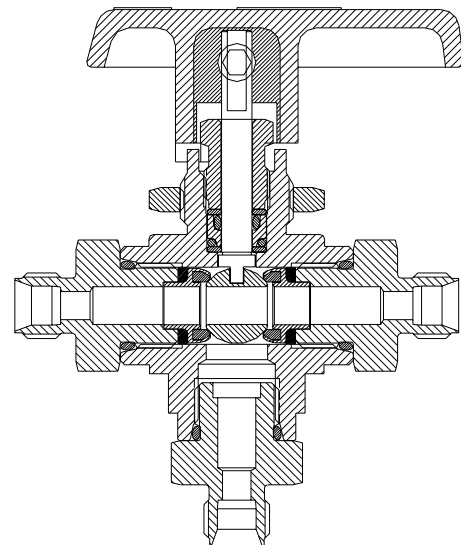

Figure 2: Three-Way B Series Ball Valve with O-Ring Packing Cross Sectional View
- NOTE:** On 3-way Ball Valves, the bottom port End Connector is assembled just as the two (primary) End Connectors, except no Ball Seat mounting elements are involved. Refer to Figure 2.